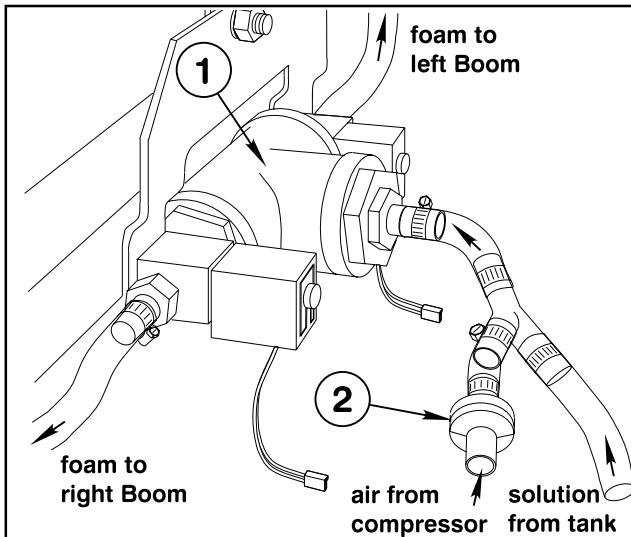

Figure 3
NOTE: The Mixer Tee (Fig. 3) can flood if the solution to air mixture is too rich, producing watery foam.
EVERY 500 HOURS (Fig. 3):
1. Replace the Plastic Check Valve at the "Y" near the Mixer Tee Assembly located at the rear of the vehicle, on the Center Boom. (FIG. 3)